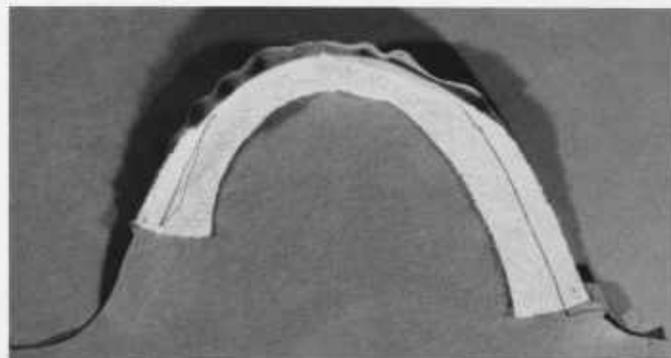

figure 68
- Remove the pins; the bias will relax and control the ease and act as the sleeve head for the sleeve cap (*figure 68*). If there was more than $1\frac{1}{2}$ " (3.8 cm) difference between armhole and sleeve cap, use two lines of basting stitches in addition to the pulled bias to fit sleeve to armhole.